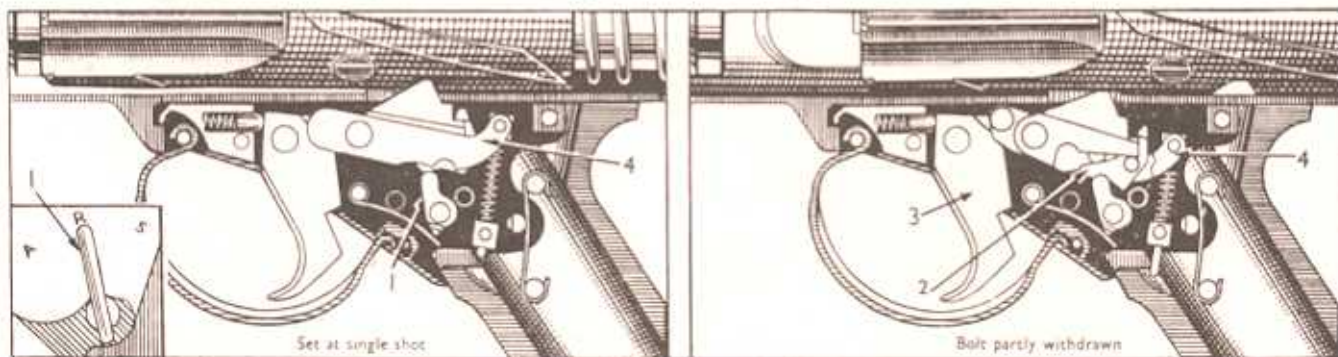

Fig. 4. Action of trigger mechanism (single shot fire)
5.0 ACTION OF THE TRIGGER MECHANISM (Figs. 4, 5, 6 and 7).
5.1 SINGLE SHOT FIRE (Figs. 4 and 5). When the change lever (1) is set to the single shot position R, the inner arm of the change lever is located under the tail of the tripping lever (2).